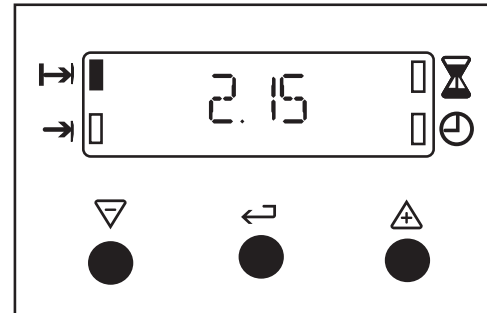

Fig.10.
- iii) To set the length of cooking time, press the Selector Control button until the 'Cook Time' indicator neon is illuminated. Press the increase control (+) until the required length of cooking time is displayed, e.g. 2 hrs 15 mins as Fig. 10. Depress the decrease control (-) if necessary.